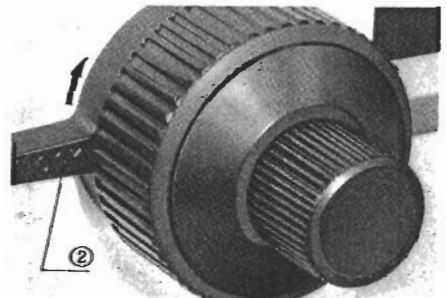

Fig. 18
This lever ② is provided to prevent possible contact between specimen and objective as well as to simplify coarse focusing. (Fig. 18) The lever is locked after coarse focus has been accomplished. This prevents further upward travel of the stage by means of the coarse adjustment knobs, and automatically provides a limiting stop if the stage is lowered and then raised again. The pre-focusing lever does not restrict fine focusing.